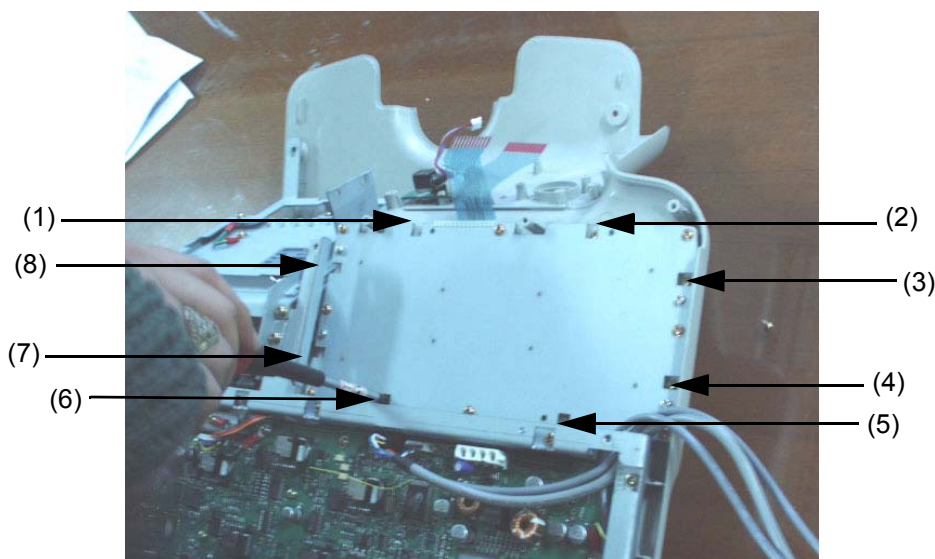

Figure 8-64 Unscrew 8 screws
5.) Unscrew eight (8) screws (1-8) to remove the the A/N keyboard Assy. Refer to section Figure 8-64 on page 23..